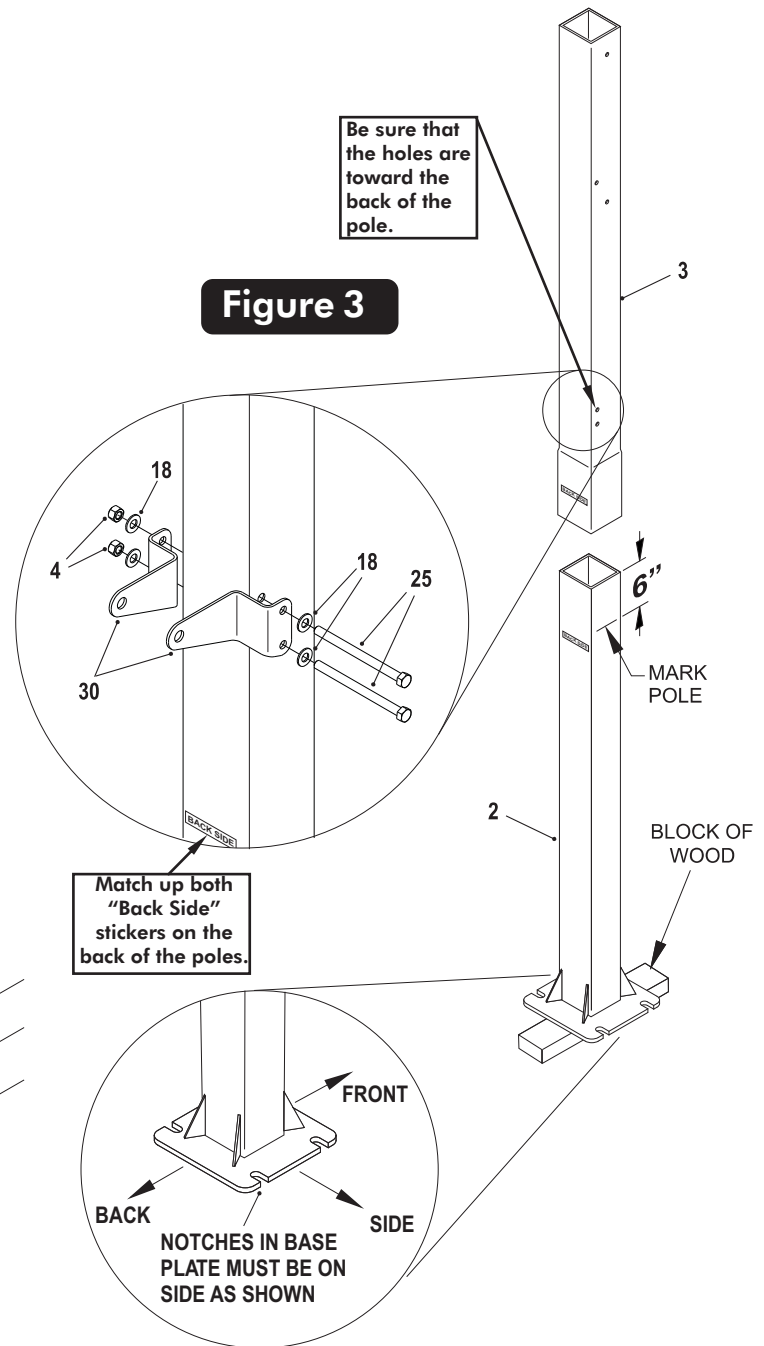

Figure 3
- Before putting any of the poles tubes together, mark bottom pole (#2) 6 inches from the top end. **Be sure to match up both "Back Side" stickers on the back of the poles and that the holes on top pole are toward the back.** See **Figure 3**.
- Align the upper pole (#3) with the bottom pole (#2) as shown in **Figure 3** and slide them together. Stand poles up on a block of wood, **lift poles up** and hit on a block of wood until the bottom of the upper pole reaches the 6" mark on the bottom pole. Hit poles a minimum of 7 times. This is a friction-locking joint and requires no hardware.
- Attach Post Ears (#30) to holes near the bottom of Top Post (#3) using two hex bolts (#25) four washers (#18) and two lock nuts (#4). See Figure 3.